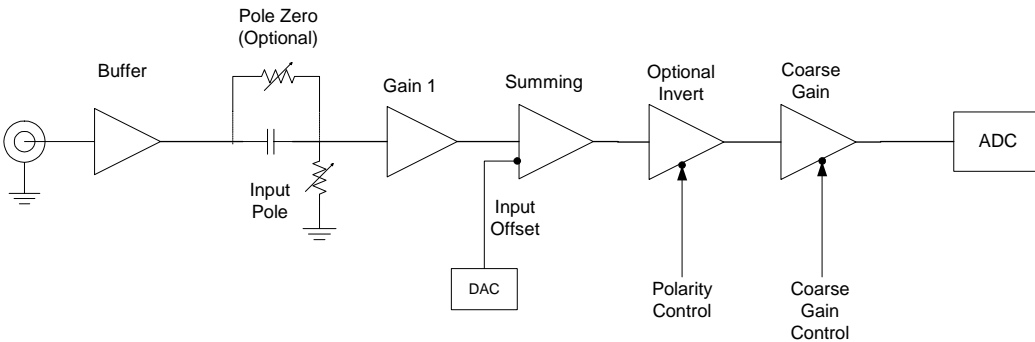

Figure 5. Block diagram of analog prefilter circuit.
The PX4 input signal is small (usually a few mV), rides on a large and variable offset (ranging from +6V to -6V several times a second), and sits on significant white noise. The analog prefilter shown in Figure 5 prepares this signal for accurate digitization. The primary functions of the analog prefilter are to (1) remove the large offset (using a high pass filter), (2) amplify the signal so that it is in the range of 1V, (3) invert if needed, so it is positive going, and (4) apply appropriate offsets so the ADC input stays in range. The ADC has an input range of 0 to 2V, so a DC offset of about 0.2V into the ADC is usually near optimum.
All of the settings shown in Figure 5 are controlled digitally. The ADC input can be viewed by setting the Analog Out (DAC) to “decimated” on the Misc tab in the software configuration menu. The analog output can be connected to an oscilloscope or the software can operate in oscilloscope mode.